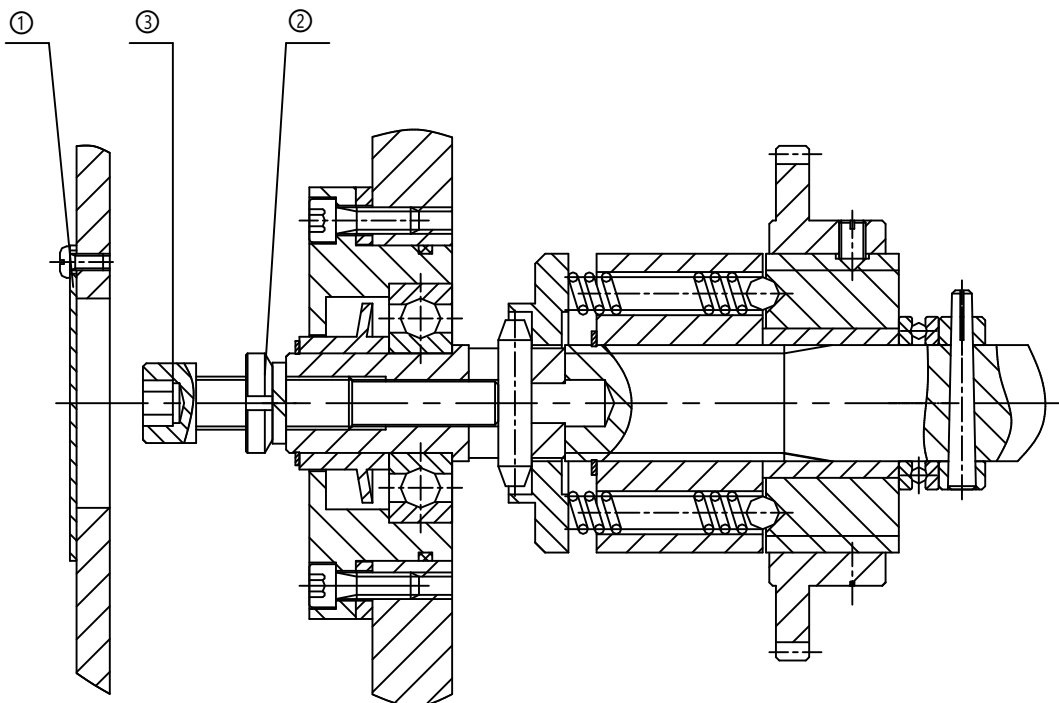

Fig.11-4 Simple diagram of safety clutch
11.4 Adjustment of feeding safety clutch(Referance to Fig.11-4)